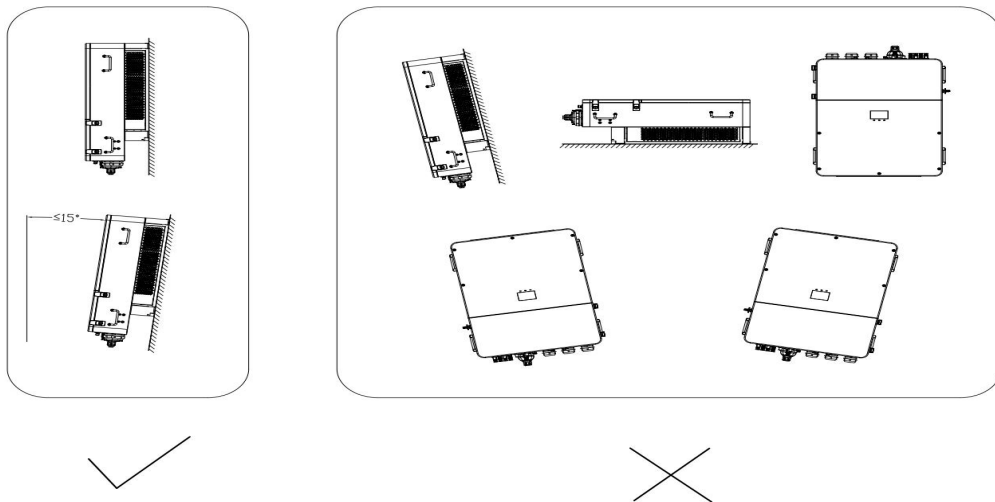

Figure 4.6 Location of inverter installation
(4) The installation surface should be perpendicular to the horizontal line, as shown in Figure 4.6. Please install the inverter vertically or tilt back $\leq 15^\circ$ to facilitate the heat dissipation of the machine. Do not install the inverter tilt forward, horizontally, upside down, tilt backward too much or sideways.